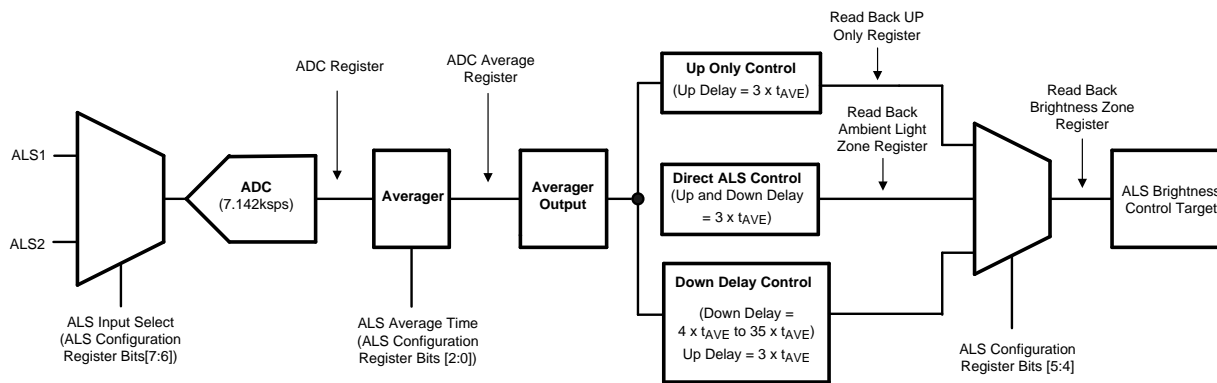

Figure 16. ALS Functional Block Diagram
Figure 16 shows a functional block diagram of the LM3532's ambient light sensor interface.
5. The Averager Output (see Figure 16) contains the zone that is determined from the most recent full average period.